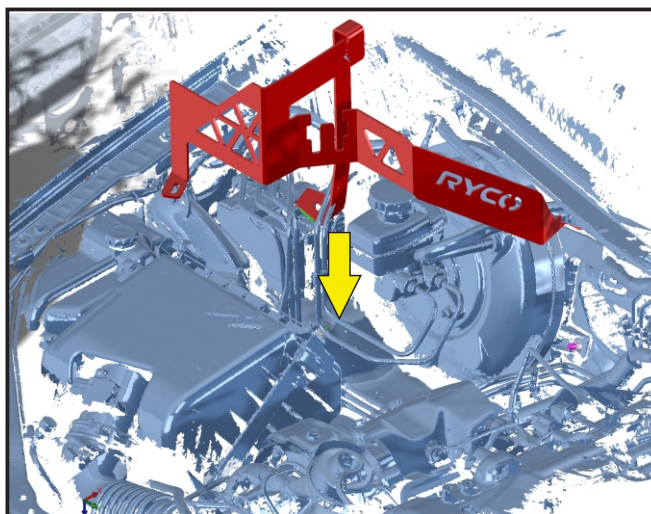

FIG. 9A FB9810CC BRACKET INSTALLATION
5. When fitting the FB9810CC Catchcan bracket as shown in FIG. 9A to 9C, you will be required to manoeuvre the bracket around engine components.